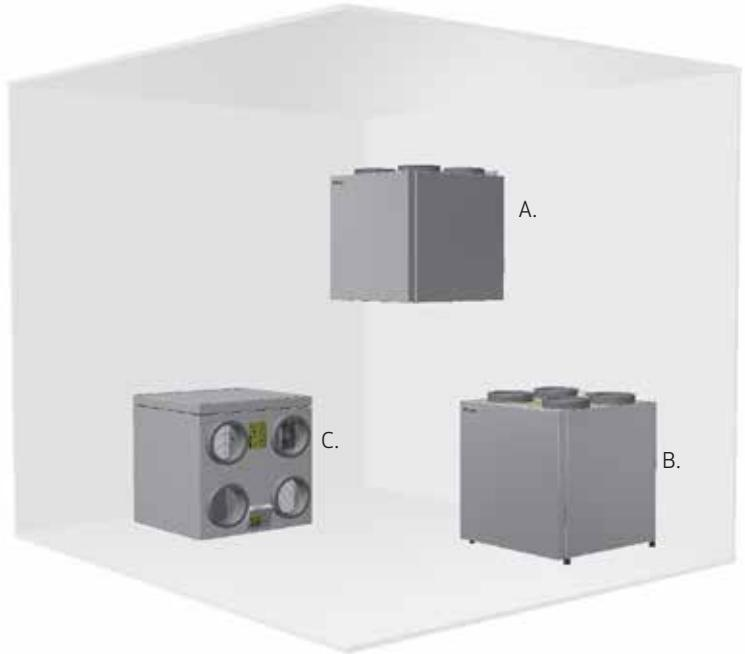

Figure 3. Installation methods – ECO 360 R
1. The unit is mounted on its back on a vibration-damping surface – with service access from above as shown in Figure 3. C.